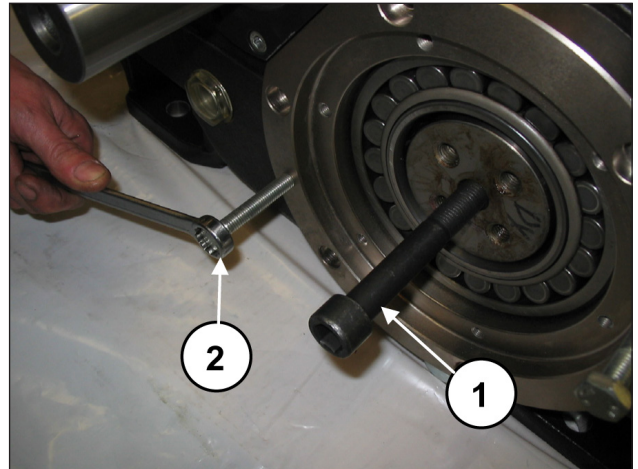
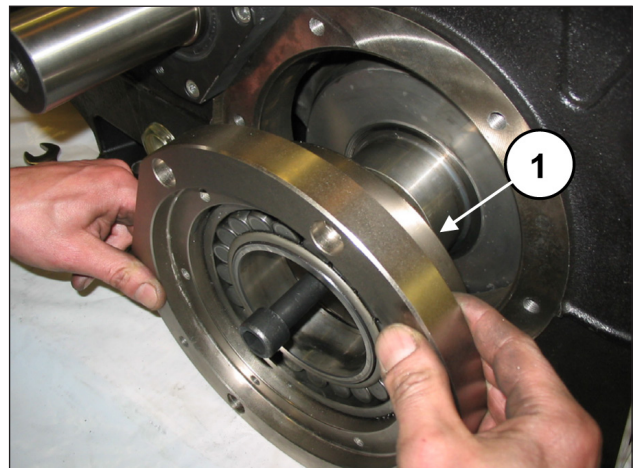

Fig. 24
Fig. 25
Apply an M16 threaded pin to one end of the bend shaft (pos. ①, Fig. 24) and, while keeping it raised, take out the bearing support cover complete with bearing and O-ring (pos. ②, Fig. 25). To help with their removal, use 2 x M10 grub screws or screws (pos. ②, Fig. 24) as extractors. Repeat the operation on the other side.